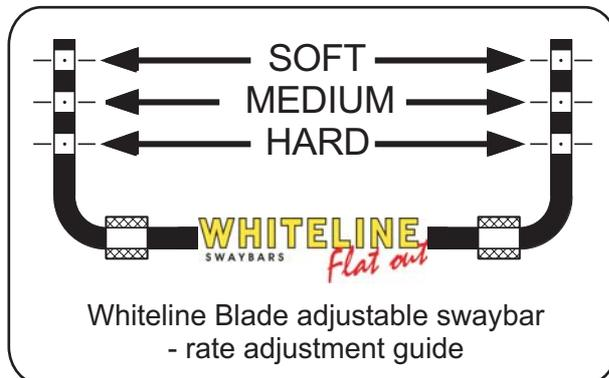

Fig.1. Whiteline 3 hole Blade swaybar shown.
6. On Blade adjustable version, refer to Fig. 1 to work out the desired setting on how to connect the endlink.
Caution: Do not over tighten swaybar pin type link bushes, refer Fig 1. Nuts should be tightened until washer meets the bush & stops rotating. Then tighten a further $\frac{2}{3}$ of a turn. Over tightening compresses and pre-loads the polyurethane bush which reduces articulation and may cause premature failure.